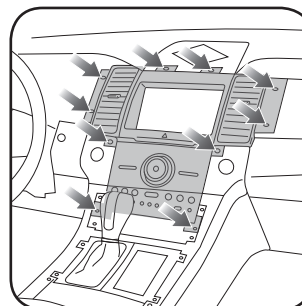

Fig. 1.7
11. Remove ten (10) 7mm screws holding the radio control panel. Unclip and remove it. (Fig. 1.7)